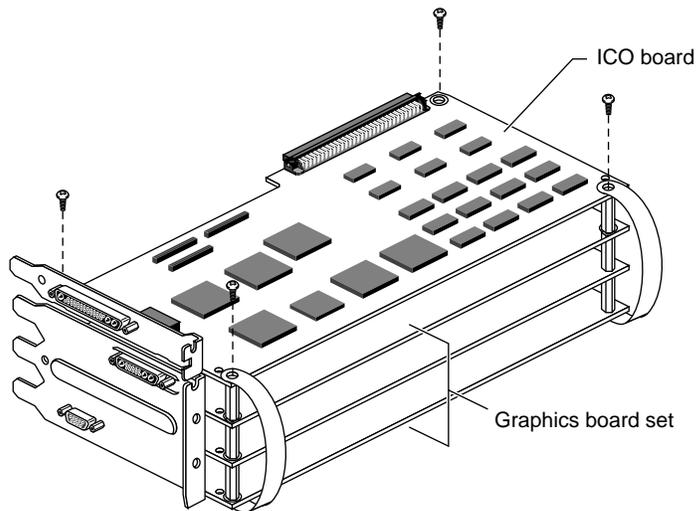

Figure 1-20 Aligning and Attaching the ICO Board to the Graphics Board Set
3. Align the Indigo² ICO board with the graphics board set and place it on the standoffs. See Figure 1-20.